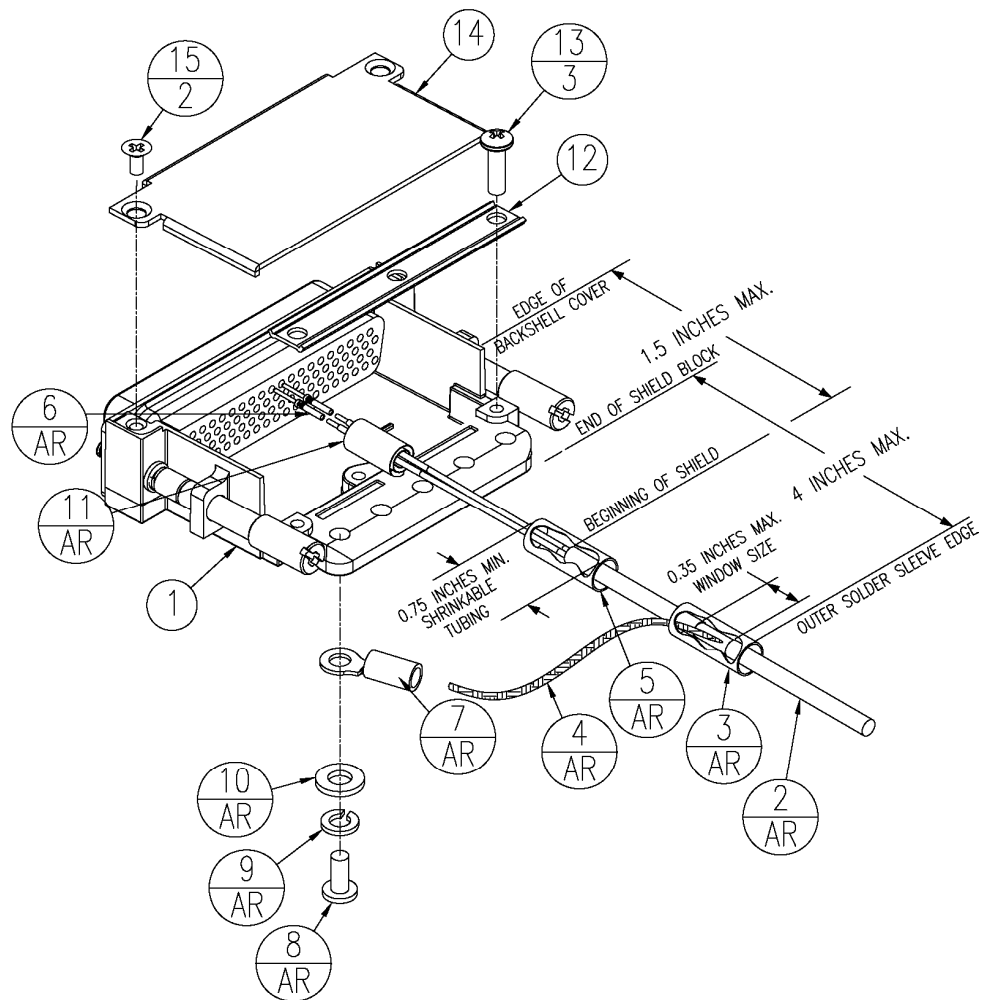

Figure B-5. Shield Install onto a Jackscrew Backshell (78 pin example)
In Figure B-5, “AR” denotes quantity “As Required” for the particular installation.
7. Cut the Flat Braid (item 4) to a length that, with the addition of a ring terminal, will reach one of the tapped holes of the Jackscrew backshell (item 1) (Figure B-5). An appropriate amount of excess length without looping should be given to the Flat Braid (item 4) to allow it to freely move with the wire bundle.